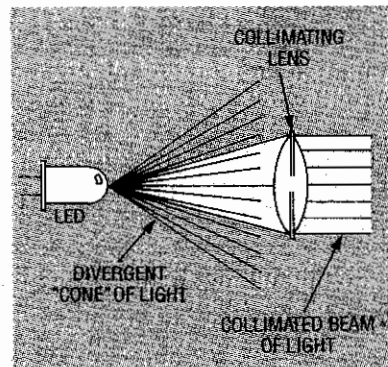

FIG. 2—THE LIGHT FROM AN LED diverges or spreads out as it leaves the LED. A lens will then collimate the light so that it travels in parallel beams.
instead of a divergent cone, it is said to be collimated. Although you can't form a truly collimated beam, the lens on the transmitter attempts to do that (see Fig. 2).
**Divergence.** The "spreading out" of an optical beam. In other words, a divergent beam is the opposite of a collimated beam. All optical beams diverge, some more than others. If you could form a beam with zero divergence (you can't), it would not obey the inverse square law. In other words, you could send your beam an infinite distance because the energy wouldn't spread out. Laser beams have small divergence compared with other light sources. Spot lights are built to have a small amount of divergence, whereas flood lights are built to have a great deal of divergence (see Fig. 2).